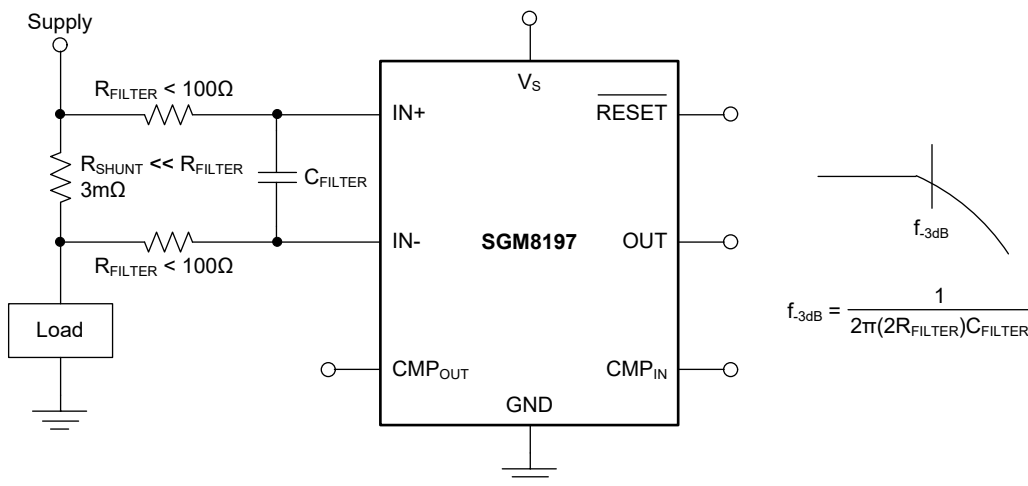

Figure 6. Filtering at the Input (Gain Error: 1.5% to 2.8%)
It is not recommended to add a filter at the output of SGM8197 series, as doing so increases impedance seen at the output of the internal buffer. Filtering at the input pins would be a good choice as long as the change of the input impedance is taken in account. The corresponding filtering circuit is shown in Figure 6. The shift in the initial gain and the effects on the gain tolerance can be minimized by choosing a low resistor value. Equation 1 shows the effect of the initial gain.
1. For example, the calculated error of gain is 1.96% if the customers replace the two 100Ω 1% resistors at the position of R_{FILTER} (shown in Figure 6). However, the worst case is that the internal input impedance is 5kΩ - 30% and the offset of R_{FILTER} is 3%. Under this worst situation, the error of gain would be larger than normal after calculation.